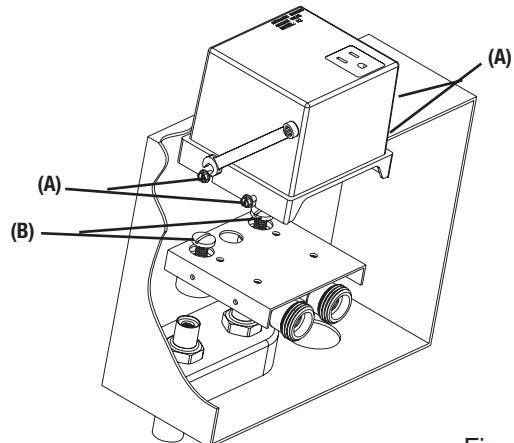

Figure 1
- A4. Remove the cover by unscrewing the four (4)  $\frac{1}{4}$ " hex head screws (A) using a  $\frac{1}{4}$ " open end wrench. (See Figure 1)
- A5. Remove the A2 by unscrewing both slotted screws (B) on the top of the valve. Go to step #6.